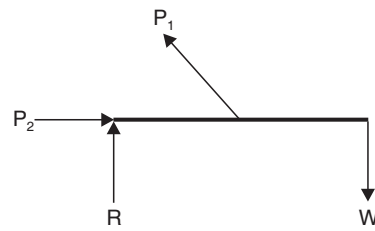

Fig. 2.5
**4. Coplanar non-concurrent non-parallel force system.** Such a system exists where the lines of action of all forces lie in the same plane but do not pass through a common point. Fig. 2.5 shows such a force system.